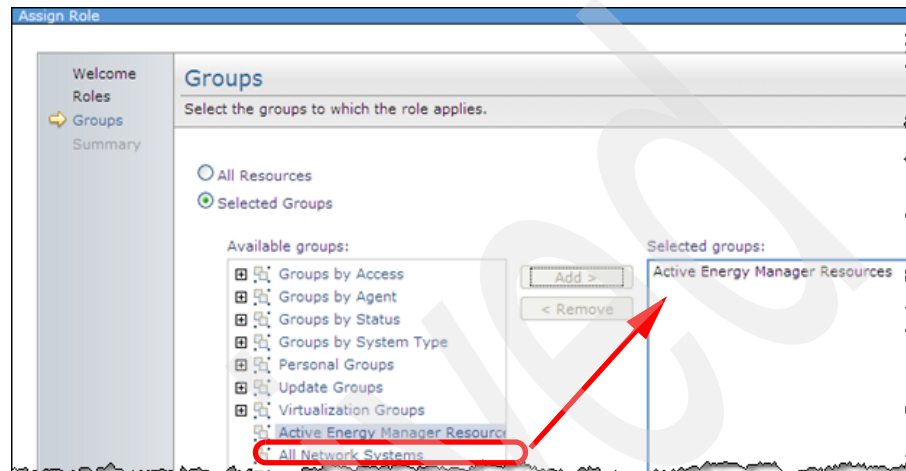

Figure 4-11 Selecting specific groups
8. As shown in Figure 4-11, an assigned role is only activated under designated groups. To enable access to all resources, click **All Resources**, and then click **Next**. To enable access to only a subset of the available resource groups, click **Selected Groups**, select the group or groups that you want, and then click **Add**. When finished click **Next**.